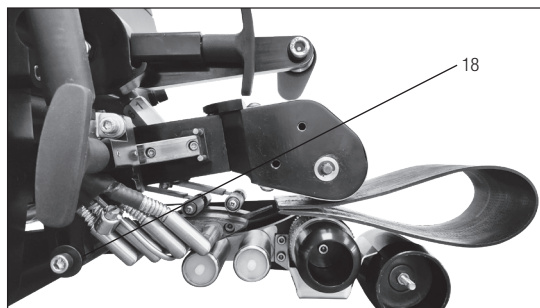

Figure 5
**Adjustment procedures for lock mount assemblies (Figure 5):**
- With the material set-up piece in place and with the nip lever and wedge engaged as shown on Figure 5, use a 5mm Allen wrench to loosen the wedge mount bolt that connects the wedge hex mount to the wedge slide lock mount (#18, Figure 5).